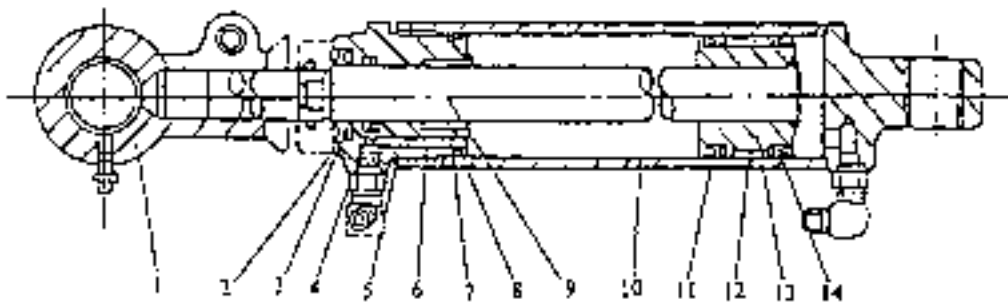

Fig.7-17 Tilt cylinder
7.1.5 Tilt cylinder (Fig.7-17)